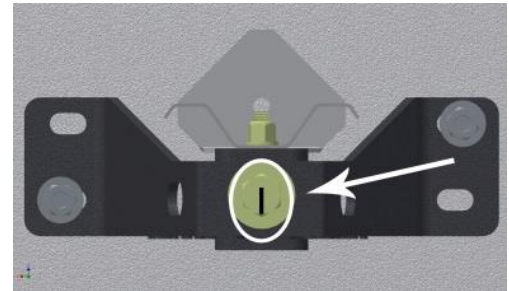

Figure 3: Place a line centered on top of bolt.
9. Place a line using a marker on the top of the bolt. (Figure 3)